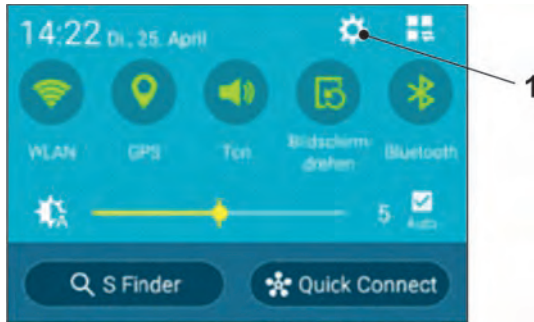

Fig. 31-2 Settings symbol
2. Open the corresponding menu using the Settings symbol (Fig. 31-2 Pos. 1).